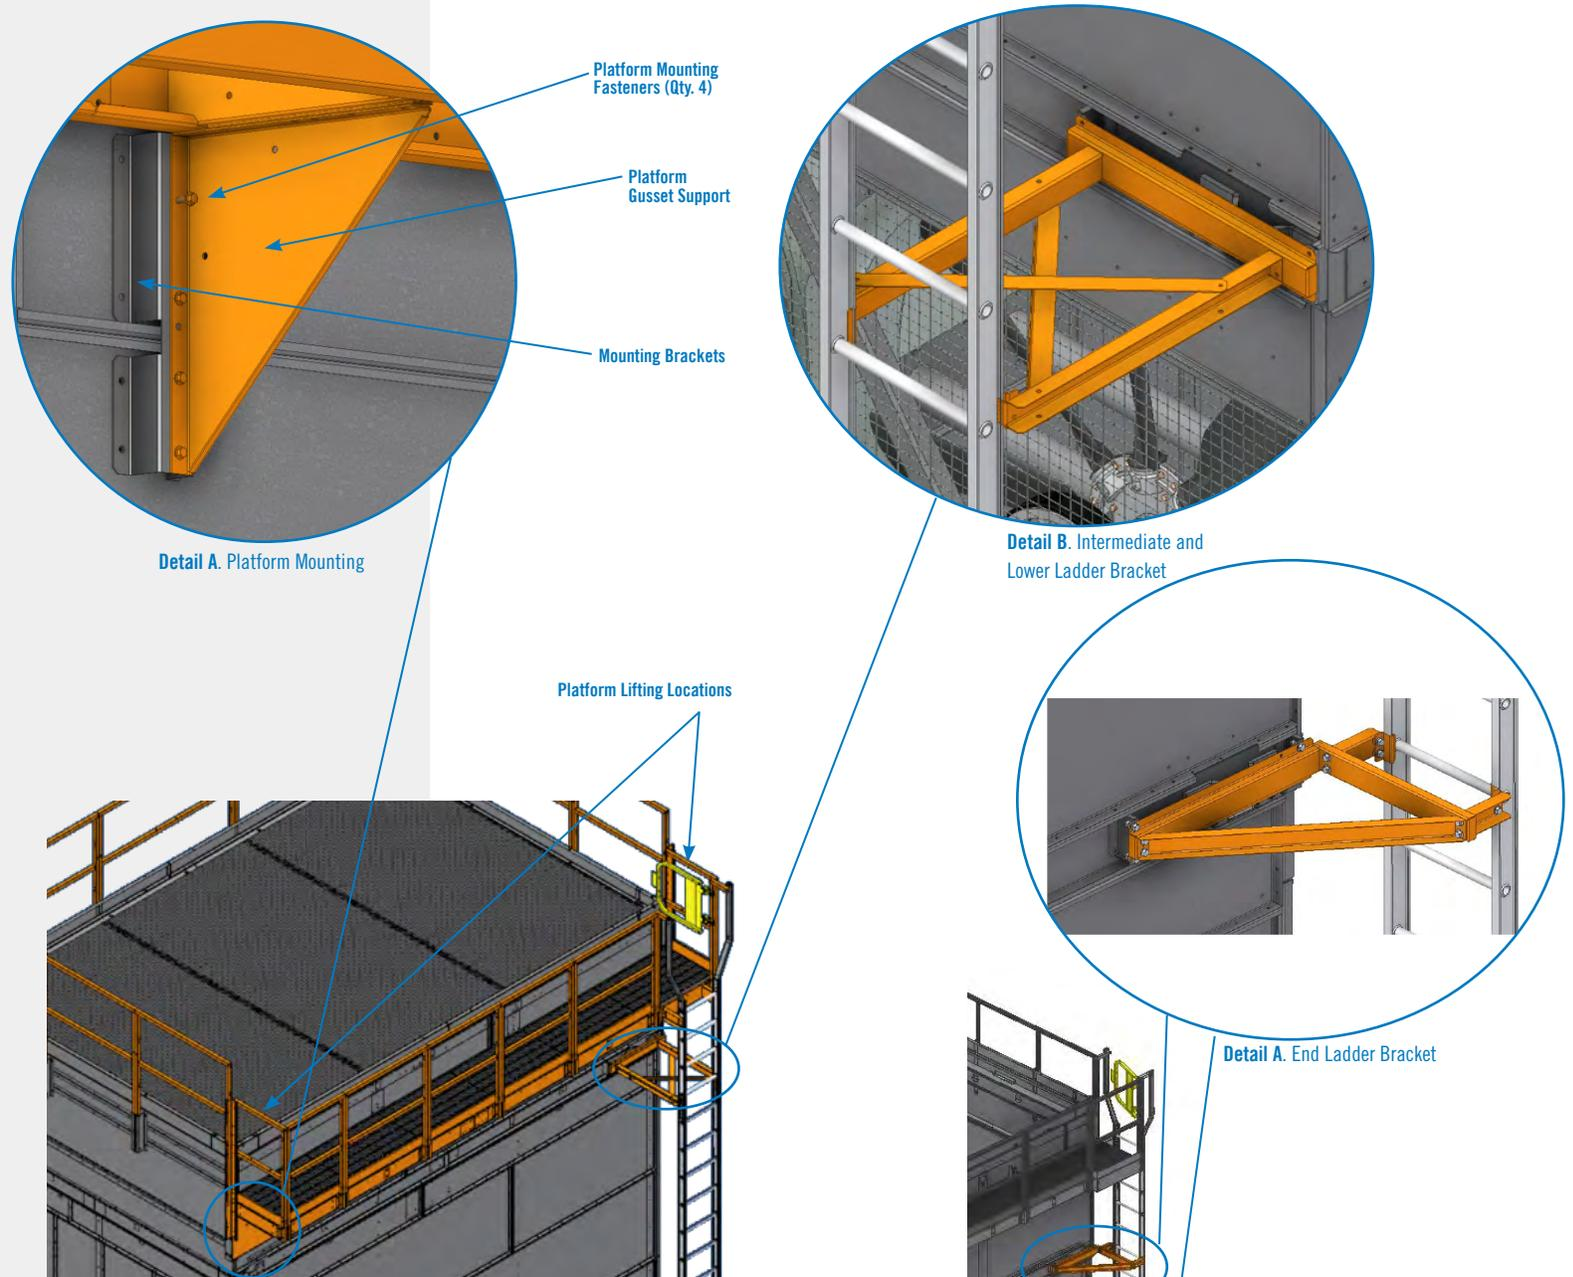
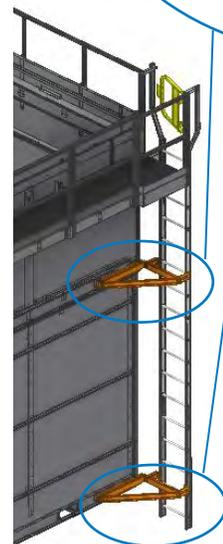

Figure 8. Platform Installation and Air-Intake Face (Face D) Ladder Installation
Figure 9. End Ladder Installation
1. Lift the platform by fastening the lifting device to the top guard rail so it does not slide while lifting. Lift the platform so that the support gussets align with the mounting brackets on the unit. See **Figure 8**.
2. Fasten the platform gussets to the mounting brackets using the supplied hardware as shown in **Figure 8, Detail A**.
3. Loosely fasten the lower and intermediate appropriate ladder brackets and diagonal braces to the factory installed ladder brackets as shown in **Figure 8, Detail B** and **Figure 9, Detail A**. Check your submittal for the ladder orientation ordered.
Attach the ladder to the platform and fasten the lower and intermediate brackets to the ladder side rails as shown in **Figure 8, Detail B** and **Figure 9, Detail A**.
2. Lift the platform by fastening the lifting device to the top guard rail so it does not slide while lifting. Lift the platform so that the support gussets align with the mounting brackets on the unit. See **Figure 8**.
3. Fasten the platform gussets to the mounting brackets using the supplied hardware as shown in **Figure 8, Detail A**.
5. Loosely fasten the lower and intermediate ladder brackets and diagonal braces to the factory installed ladder brackets on the unit, as shown in **Figure 8, Detail B** and **Figure 9, Detail A**. Check your submittal for the ladder orientation ordered.
7. Attach the ladder to the platform and fasten the lower and intermediate brackets to the ladder side rails as shown in **Figure 8, Detail B** and **Figure 9, Detail A**.